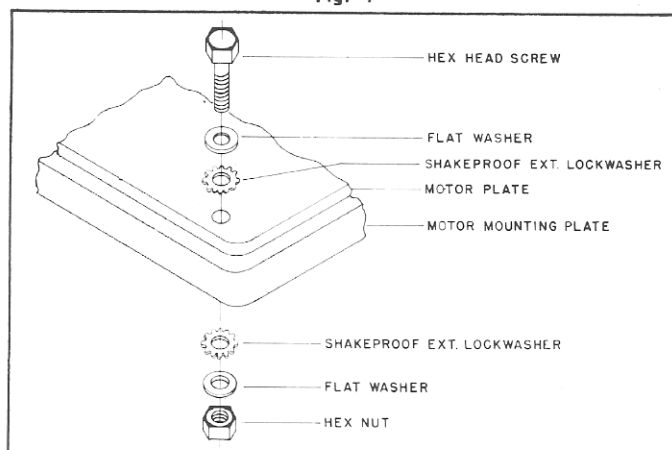

Fig. 7A
3. Fig. 7A illustrates the proper relationship of the motor mounting hardware. **CAUTION:** The proper grounding of the motor, to prevent shock hazard, depends on the use of the shakeproof lockwashers in the manner shown in Fig. 7A.